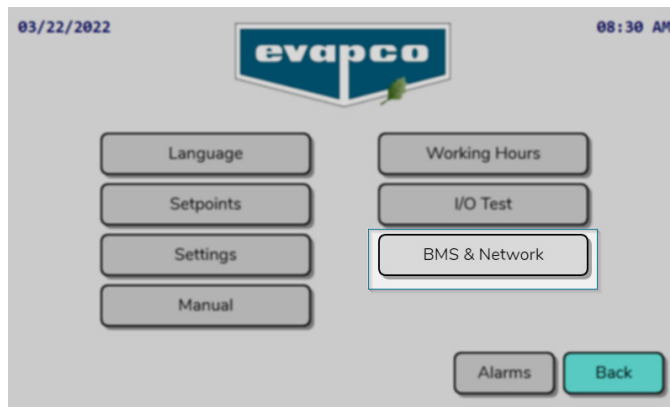

Figure 6 - Service Menu, BMS & Network
**Note:** the unit must be turned off before changes can be made to the communication parameters. This is easily achieved via the On/Off Control section of the main menu. From the main menu, log in at the Service level (password: 1234) and enter the Service submenu. Select the BMS & Network button menu (Figure 6). After changing any parameter, the Update button must be pressed and held for three seconds to set the value. **This will cause the HMI and PLC to restart.**